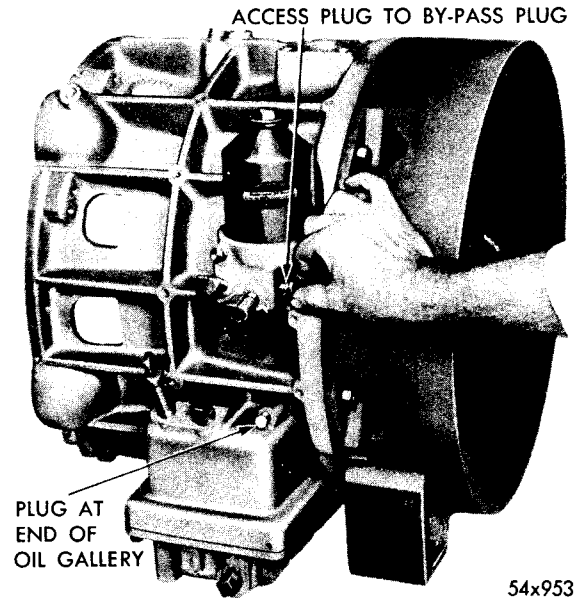

Fig. 23—Removing or Installing the Access Plug to Oil Cooler By-Pass Plug
- (12) Remove the access to cooler by-pass plug, as shown in Figure 23.
- (8) Install the access plug to cooler by-pass plug, as shown in Figure 23, and tighten securely.